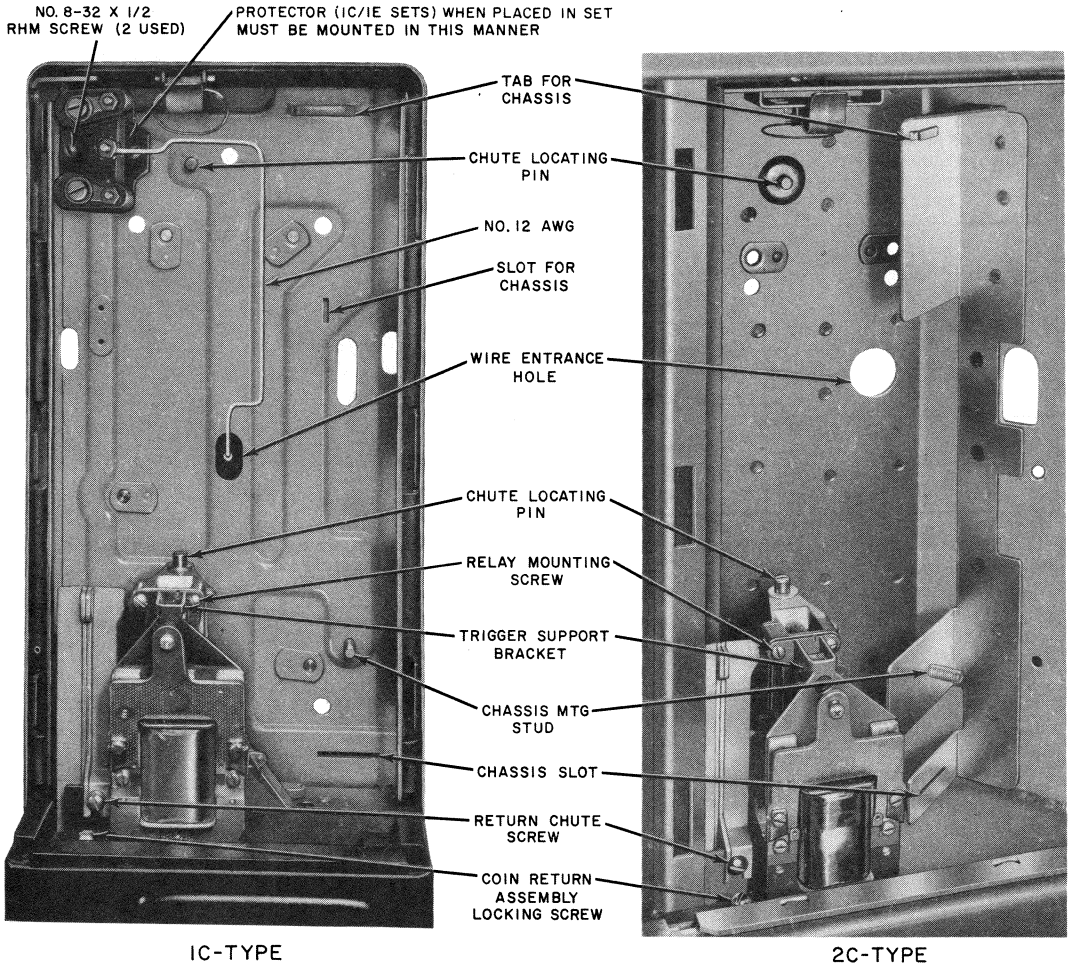

Fig. 13—Housing and Mounting Plate Assembly
- (1) Place chute on locating pins at rear of hopper assembly, and back of housing (Fig. 13).
- (2) Place spring in groove on chute.
- (3) Lock spring in place by pushing chute locking lever down.
- (4) Connect totalizer plug P2 to J2.
- (1) Slide chassis under tab (Fig. 13).
- (2) Seat chassis tabs in slots.
- (3) Tighten chassis mounting screw.
- (4) On 1A/2A/1C/2C-type sets, thread (BK) and (Y) leads through eyelet on side of hopper.
- Connect (BK) lead to terminal 3 on coin relay
- Connect (Y) lead to terminal G on coin relay.